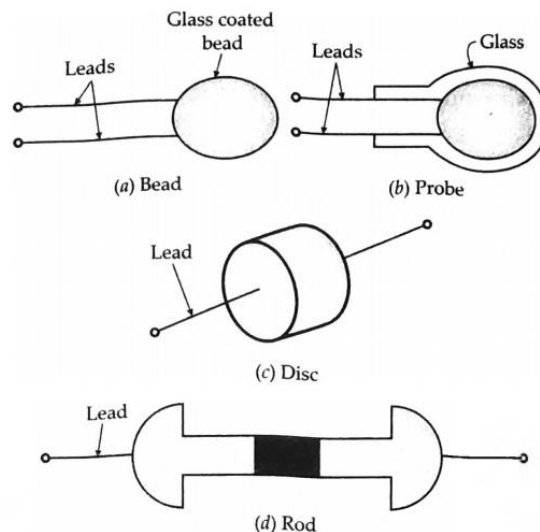

Fig. 1: Different forms of construction of thermistors.
- The thermistors may be in the form of beads, rods and discs. Some of the commercial forms are shown in Fig. 1.